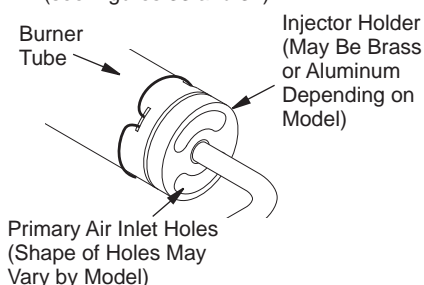

Figure 33 - Injector Holder On Outlet Burner Tube
2. Inspect burner, pilot and primary air inlet holes on injector holder for dust and dirt (see Figures 33 and 34).